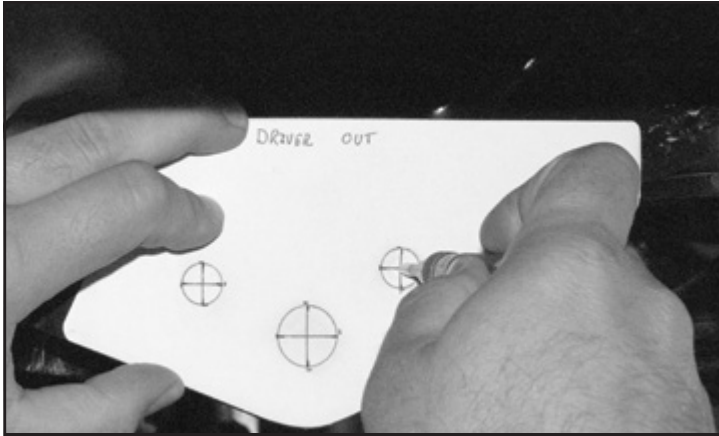

FIGURE 30 - STEP 36
36. Line up the drill template with the factory Radius arm bracket and mark the two holes around the radius arm pivot bolt. **SEE FIGURE 30**